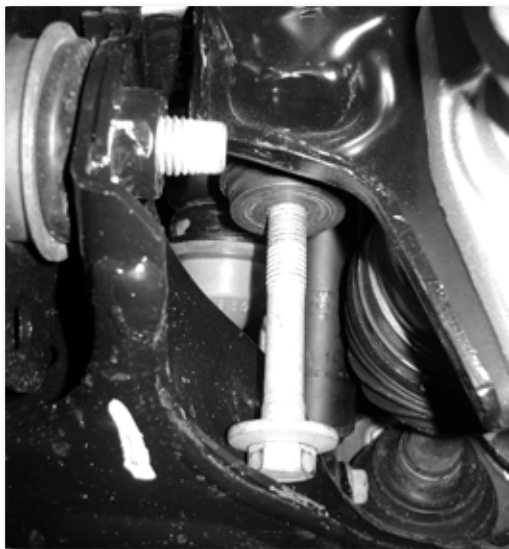

Figure 4
13. Doing one side at a time, remove the 2 mounting bolts and lower the jack to allow enough clearance for the provided differential drop spacers. Figure 4